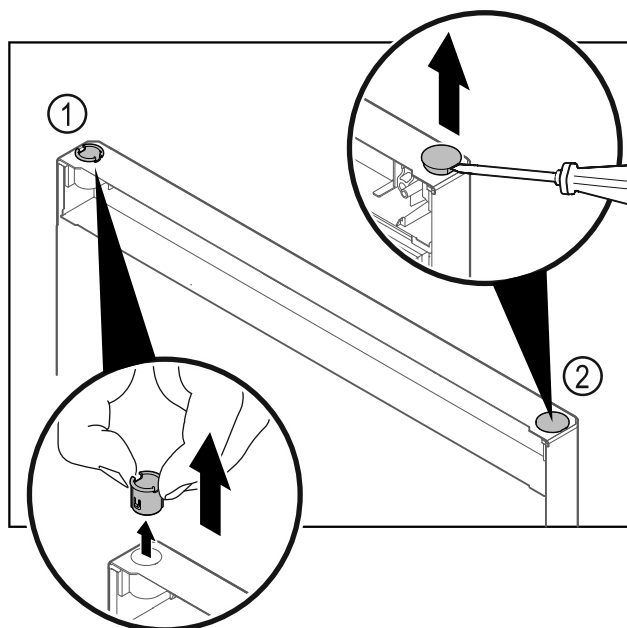

Fig. 29
- ▶ Pull out the hinge bushing Fig. 29 (1) with your fingers.
- ▶ Carefully lift the cover plug Fig. 29 (2) with a slotted screwdriver and pull it out.